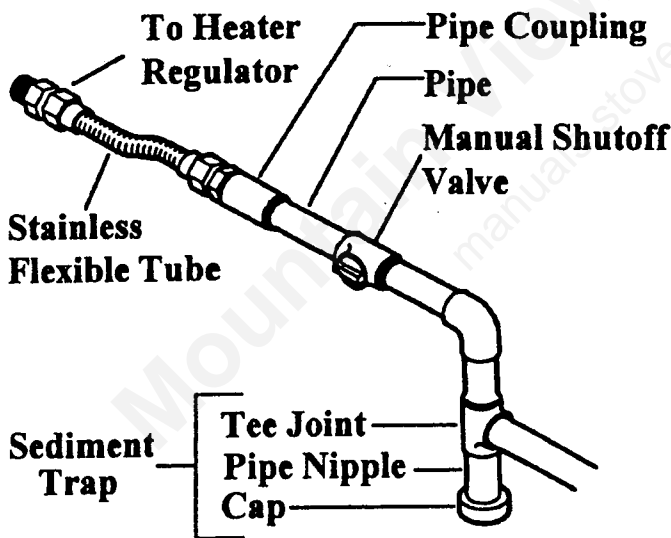

Figure 4.1
**INSTALLER - PLEASE NOTE:** You must provide means of isolating the gas supplied to the heater independent of the heater's internal controls. An AGA certified manual shut-off valve should be used for this purpose, fitted to the main gas supply line as close as possible to the controls of the heater (see Figure 4.1). Also, when connecting the gas supply to the inlet elbow insure that the pipe route does not interfere with the operation of the control valve or sliding tray.
To assure that foreign objects do not enter the control mechanism of your Jotul Gas Room Heater, a sediment trap must be installed as close to the inlet of the heater as practical (see Figure 4.1). The sediment trap can be a tee fitting with a capped nipple in the bottom outlet. Install this after and/or closer to the controls of the heater than the manual shut-off valve.